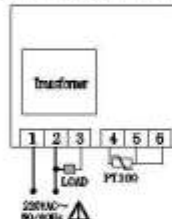
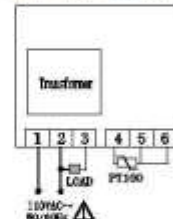

FIG. 1 【PCB-C6000-ZF】
FIG. 2 【PCB-C6000-ZF(110V)】
- Wiring according to the figure 1 and figure 2 terminal check and confirm the correct.